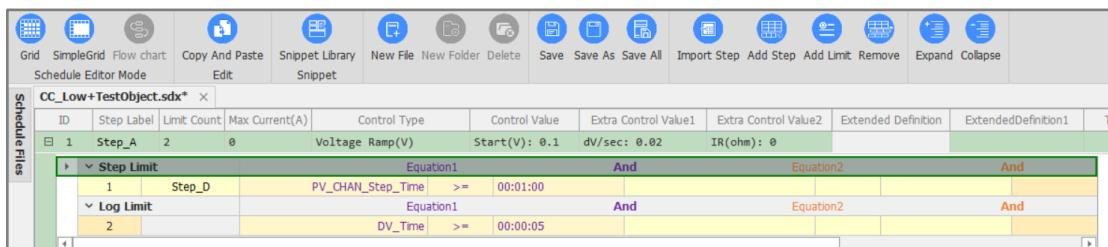

Figure 20-13
- b) Figure 20-13 shows a voltage ramp, starting from 0.1V, ending at 1.0V, and the scan rate is 20mV/sec.